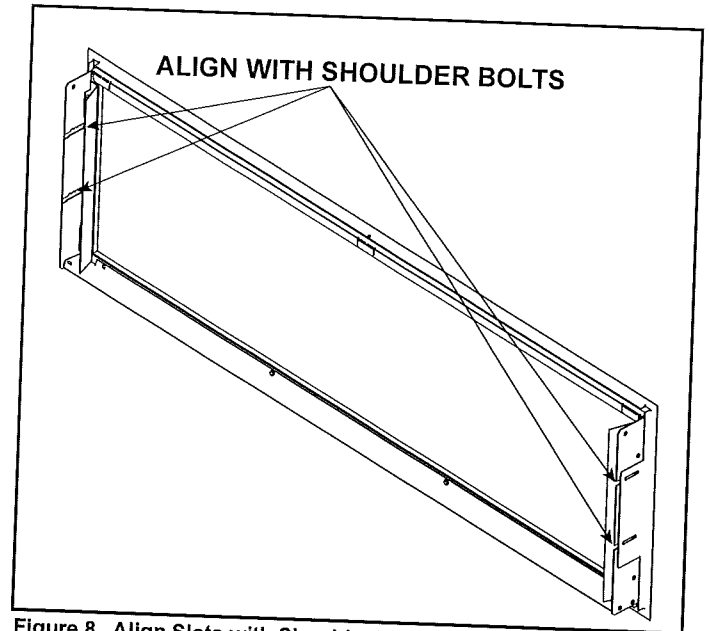

Figure 8. Align Slots with Shoulder Bolts
9. Hang the decorative front by aligning the slots on the bracket on the back of the decorative front with the four shoulder bolts now installed on the appliance. See Figure 8. Push decorative front toward the appliance until it is flush with the installed trim ring.